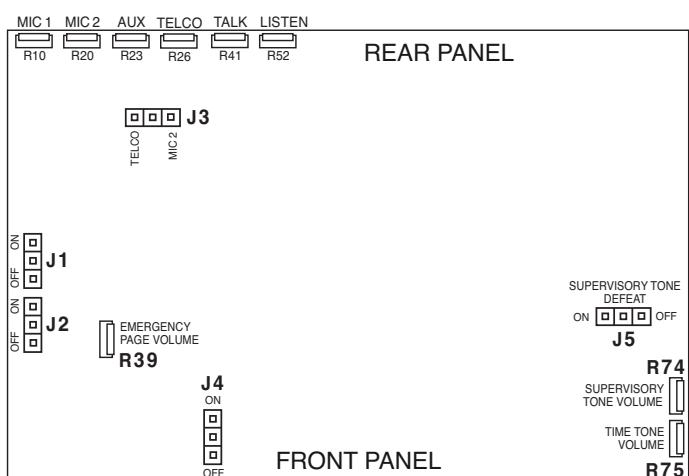

Figure 2 – Jumper Locations on MCP35A Card
4. Move the shunt on J4 to the OFF position to disable the monitor speaker muting feature when the MIC 1 push button is selected (see Fig. 2).
**Note:** J1 should be in the OFF position when the console mic is connected to the MIC 1 input (see Fig. 2).